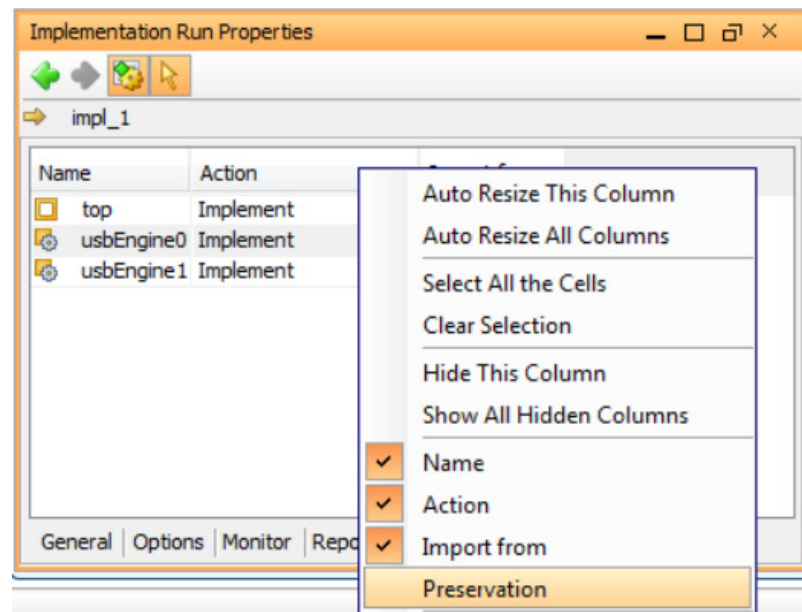

Figure 17: Adding the Preservation Level Attribute in PlanAhead
4. Right-click on the table header and select **Preservation** to add this column to the table, as shown in Figure 17.